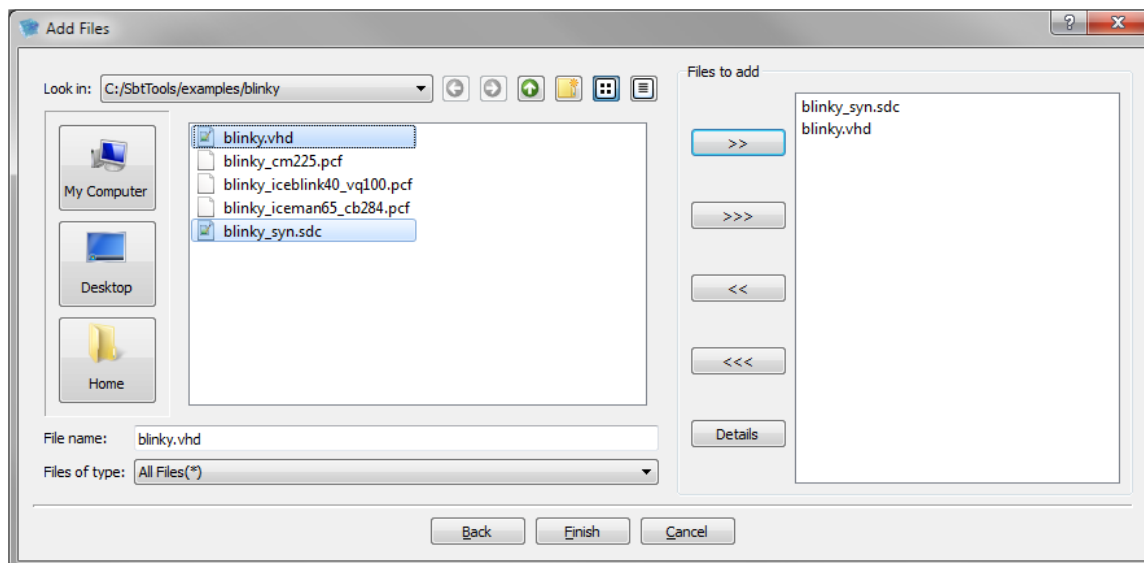

Figure 2-4: Add Files Dialog Box
8. **Click Next** to go to the **Add Files** dialog box shown in Figure 2-4. You will be prompted to create a new project directory. Click Yes.